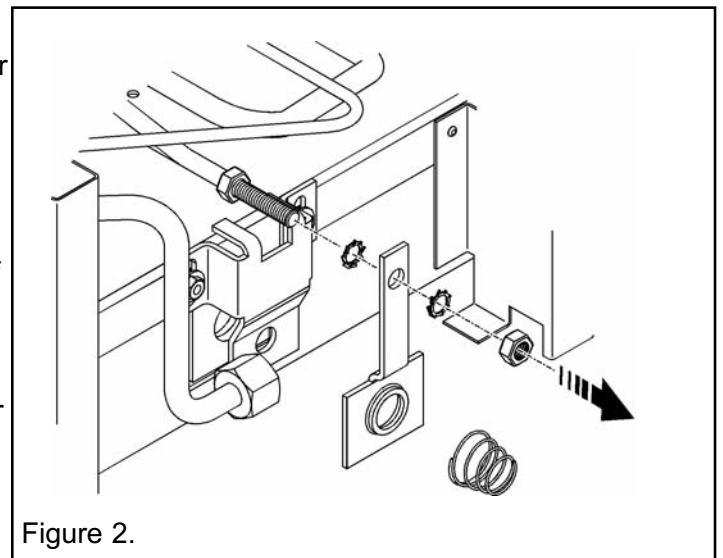

Figure 2.
- b) Undo the retaining nut and washer on the end of the control rod – see figure 2.
- c) Withdraw the aeration shutter through the injector support bracket - also shown in figure 2.